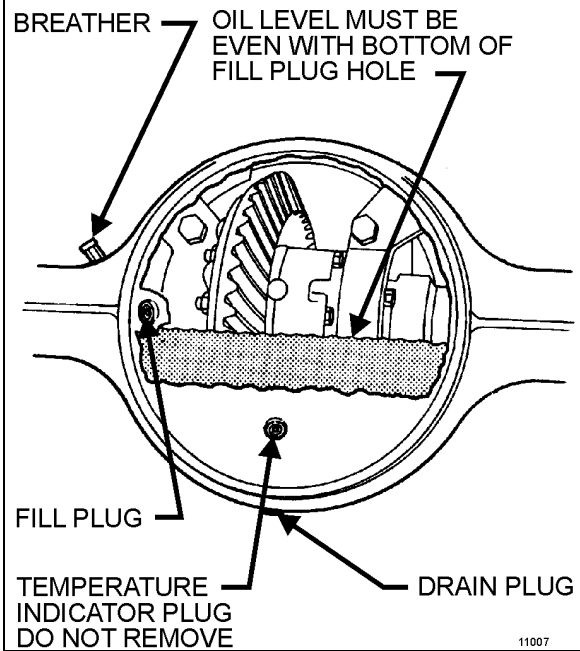

FIGURE 4: DIFFERENTIAL HOUSING BOWL 11007
3. Clean the area around the fill plug. Remove the fill plug from the differential axle housing bowl (Figure 4).